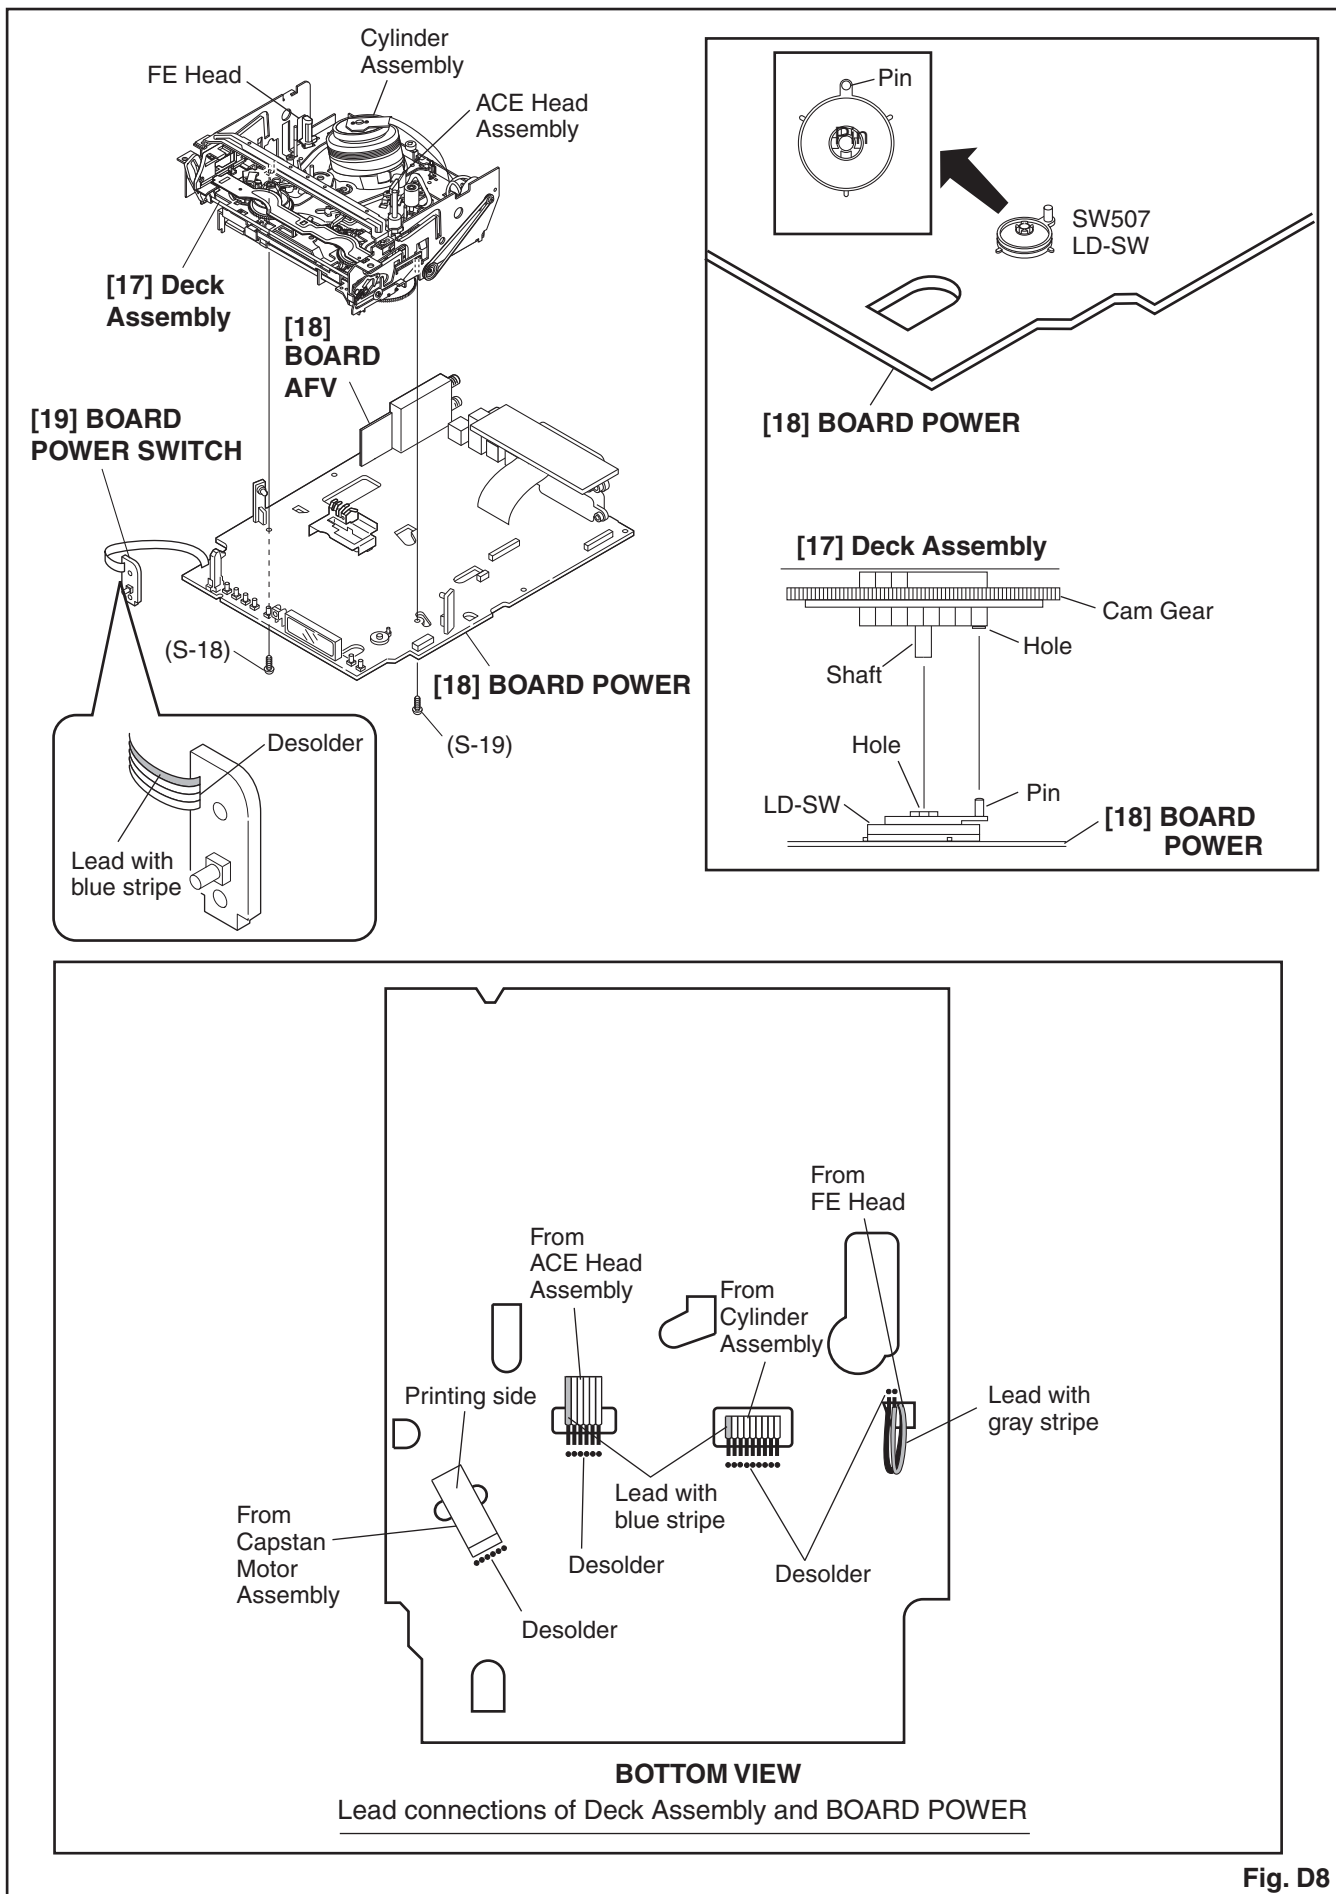

Fig. D8
3. When reassembling, solder wire jumpers as shown in Fig. D8.
4. Before installing the Deck Assembly, be sure to place the pin of LD-SW on the BOARD POWER as shown in Fig. D8. Then, install the Deck Assembly while aligning the hole of Cam Gear with the pin of LD-SW, the shaft of Cam Gear with the hole of LD-SW as shown in Fig. D8.